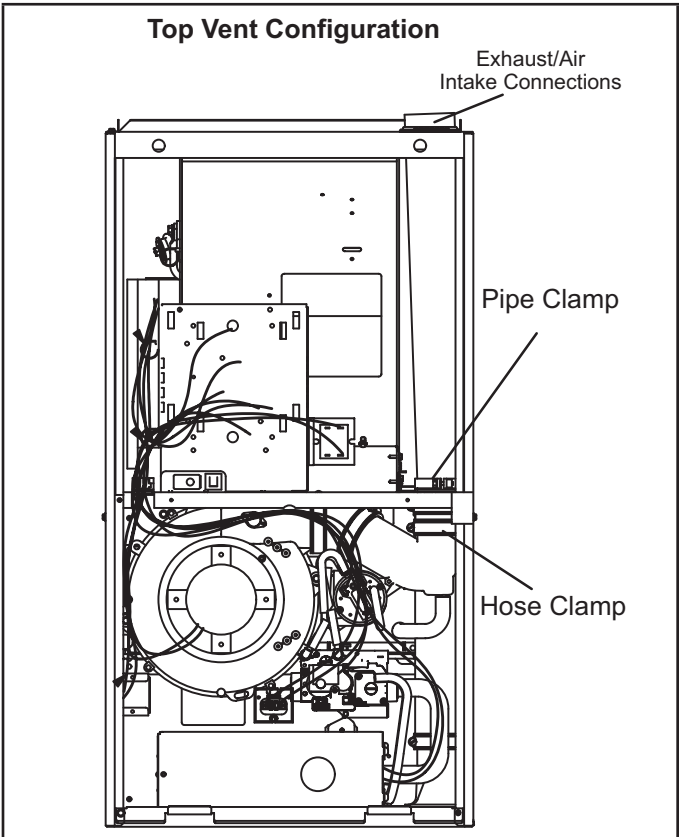
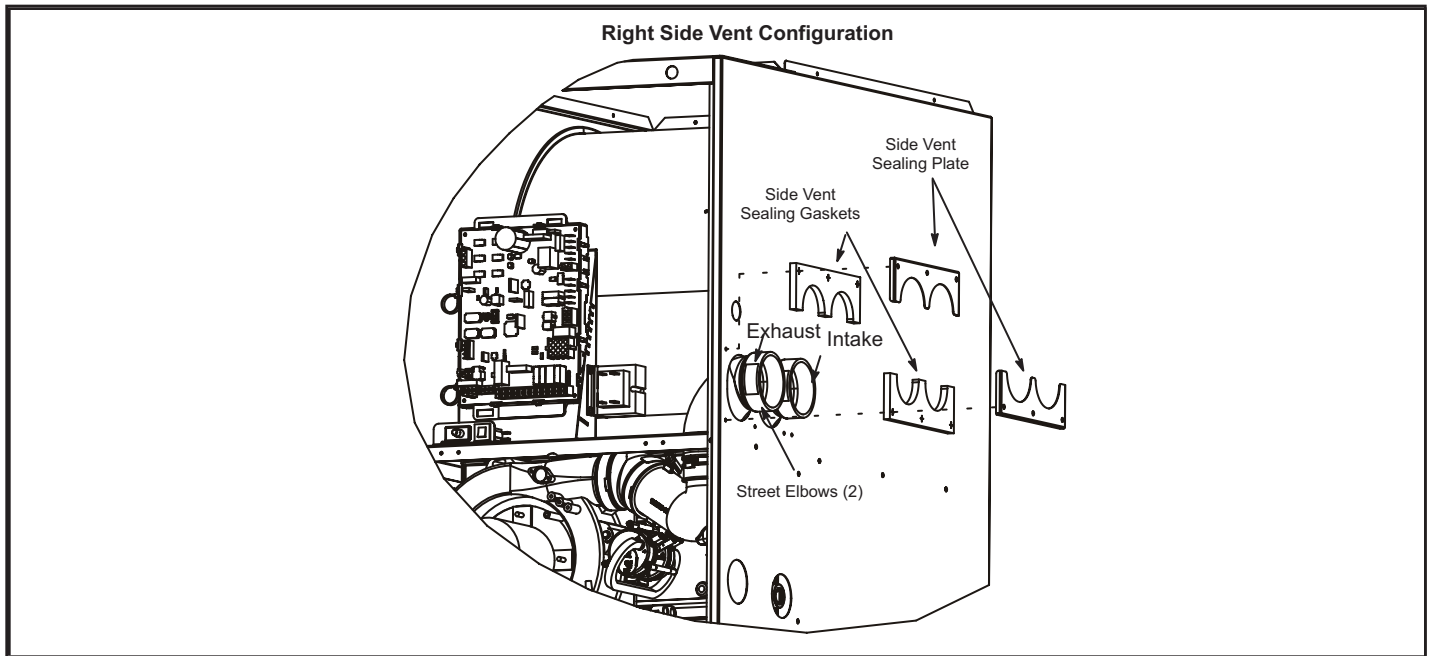

FIGURE 19
FIGURE 22
The EL297DFVK is shipped with vent exhaust / air intake connection at the top cap. See FIGURE 19. Using parts provided, the furnace may be field modified to have these connections on the right side of the furnace cabinet. See FIGURE 22 and follow the steps below. For left side venting order kit 87W73.
- 2 - Loosen hose clamps which attach rubber fittings to the white PVC pipes inside the vestibule area. See FIGURE 19.
- 3 - Loosen the clamp which secures the pipes at the blower deck. See FIGURE 19.
- 11 - Peel protective backing from side vent sealing gaskets (2) and apply to side vent sealing plates (2) as shown in FIGURE 22.
- 12 -Install the side vent sealing plates and gaskets on the exterior of the cabinet as shown in FIGURE 22. Secure with six mounting screws (four reused and two provided from bag assembly). Holes are pre-punched in the parts and cabinet, no drilling is required.